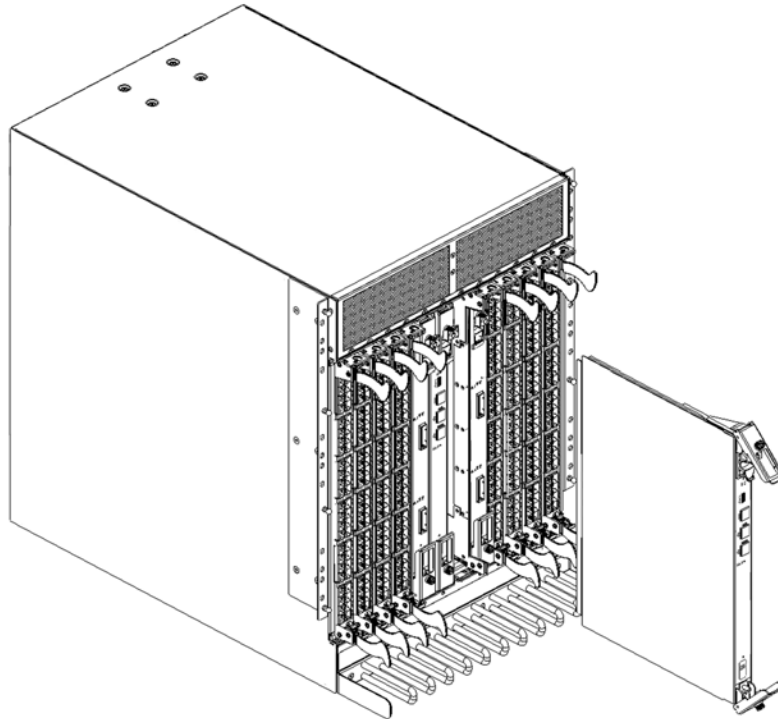
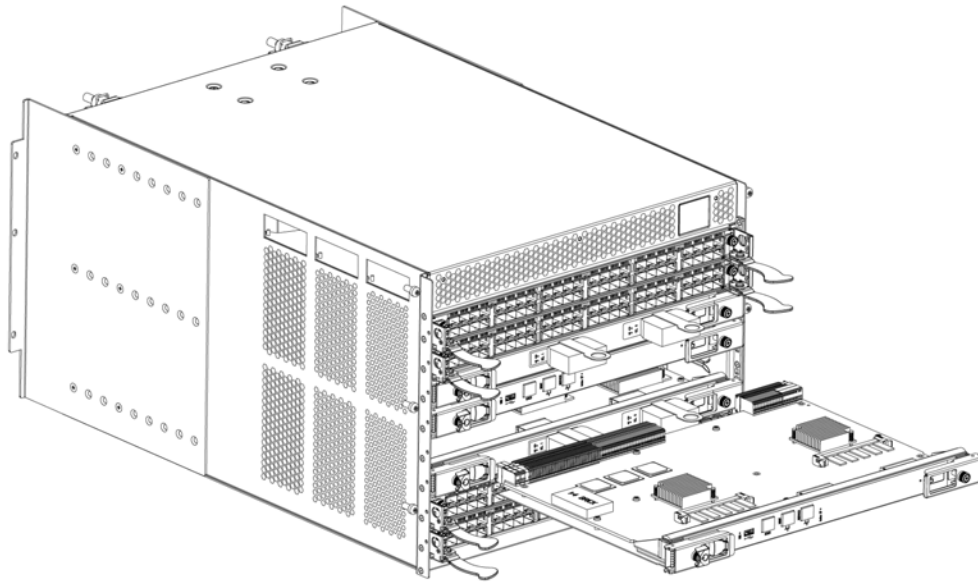

FIGURE 1 Control processor blade (CP8) in a DCX chassis
FIGURE 2 Control processor blade (CP8) in a DCX-4S chassis
- Turn the CP blade off and notify the backbone of a hot swap request by sliding the slider switch in the top ejector down to the off position (Figure 1).
2. Power off the faulty blade by sliding the slider switch in the top ejector down to the off position (Figure 1).
5. Lever open both ejector handles simultaneously to approximately 45 degrees and pull the CP blade out of the chassis (Figure 1 and Figure 2).